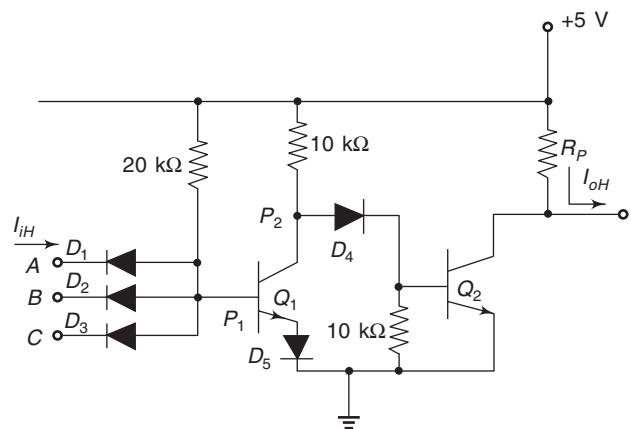

Fig. 9.41
23. For the circuit given in Fig. 9.41 identify the logic function performed by it. Also determine the high level fan-out, if R_p (pull-up resistor) = $10 \text{ k}\Omega$. Compute the maximum value of R_p for a fan-out of 5. Assume that the input diodes have a leakage current of $100 \text{ }\mu\text{A}$, V_T (cut-in value of diode) = 0.7 V , V_D (forward voltage drop) = 0.8 V , V_{BE} (cut-in) = 0.5 V , $V_{CE(\text{sat})} = 0.2 \text{ V}$, and transistor leakage current is negligible.